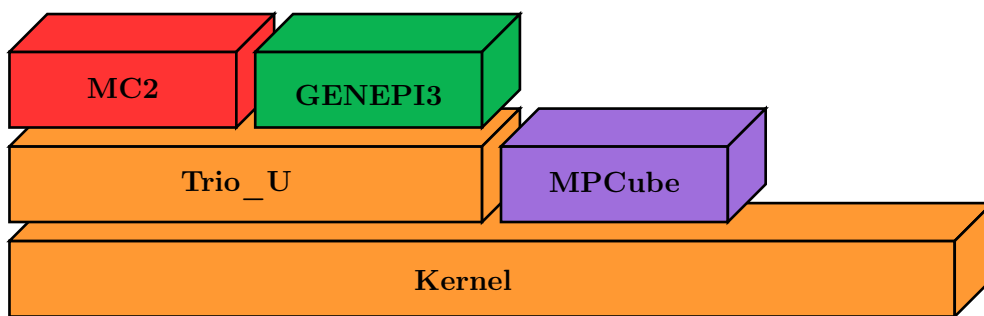

Figure 1.1: Trio\_U: brick software
**TRUST** was born from the cutting in two pieces of **Trio\_U** software. **Trio\_U** was a software brick based on the **Kernel** brick (which contains the equations, space discretizations, numerical schemes, parallelism...) and used by other CEA applications (cf Figure 1.1).